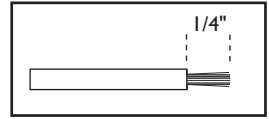

Fig. 2
7. Trim blue signal wire (DENSO sensor side) approximately 3" back, then strip 1/4" of insulation from the wire and its corresponding wire (connector side). (See Fig. 2) Trim one black heater wire (DENSO sensor side) approximately 2" back and its corresponding wire (connector side) approximately 1" back. Trim the other black heater wire (sensor side) approximately 1" and its corresponding wire (connector side) back approximately 2". Trim the remaining wire (connector side) back approximately 3" and strip 1/4" of insulation from the wire and the white ground wire (sensor side).